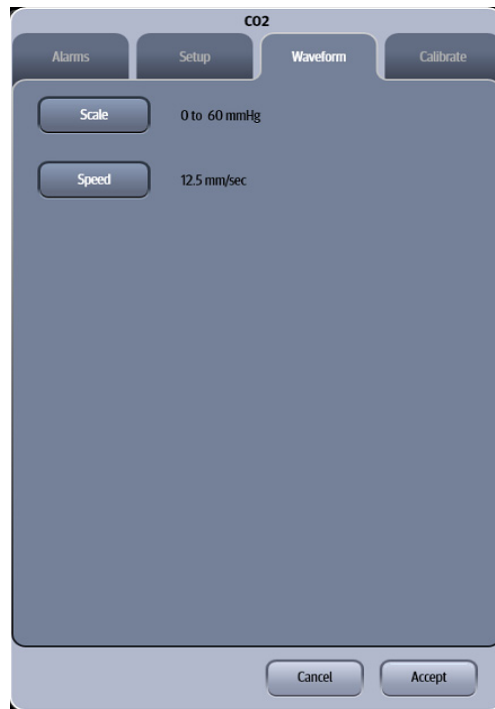

FIGURE 17-4 Example CO₂ Dialog (Waveform Tab)
2. Select the **Waveform** tab (as shown in FIGURE 17-4).